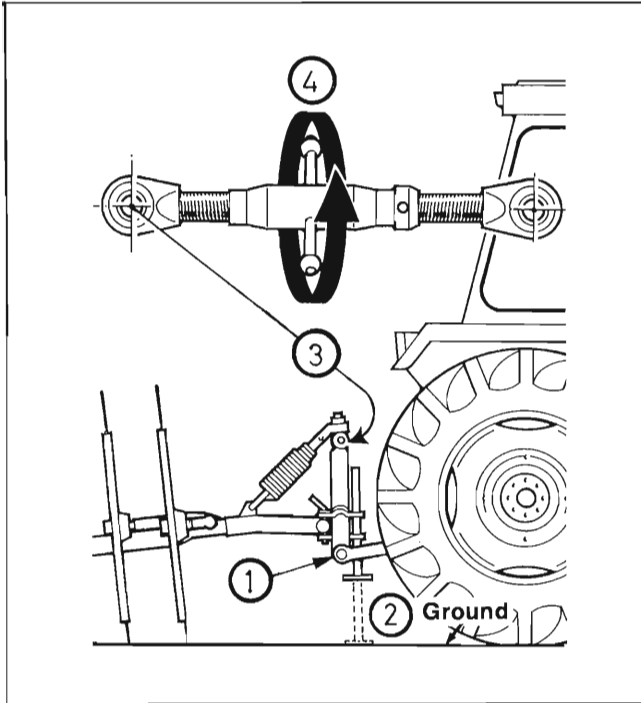

Fig. 20
1. Mount the lower Hitch Pins onto the Rake (1 of Fig. 20) and raise the Rake with the tractor hydraulics.
2. Raise and secure the Support Leg (2 of Fig. 20).
3. Lower the Rake and attach Toplink (3 of Fig. 20).